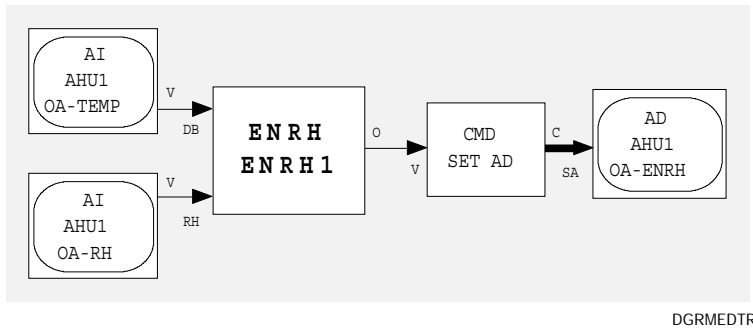

Figure 13: Diagram You Will Draw
Figure 13 shows the diagram that you will draw.
6. Position the block in the upper left side of the work area. Refer to Figure 13 for proper placement. Click left. The block pastes down and is labeled AI.
7. Move the mouse. Notice a second block forms. This is another AI block ready to be pasted down. Paste it down under the first AI block. Again, refer to Figure 13 for its proper placement.
3. Paste down one ENRH block about one inch to the right of the AI blocks (see Figure 13).